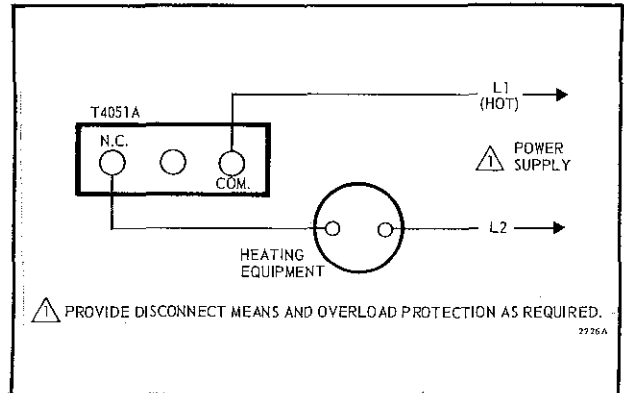

Fig. 2—T4051A Heating Control.
5. Connect the heating and/or cooling system wires or the series 60 equipment wires to the back terminals of the thermostat. (See Figs. 2 through 12.)